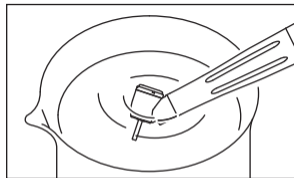

Fig. 6
- 3) Rotate the handpiece and immerse half of the handpiece head in the cup of water. (Fig. 6)